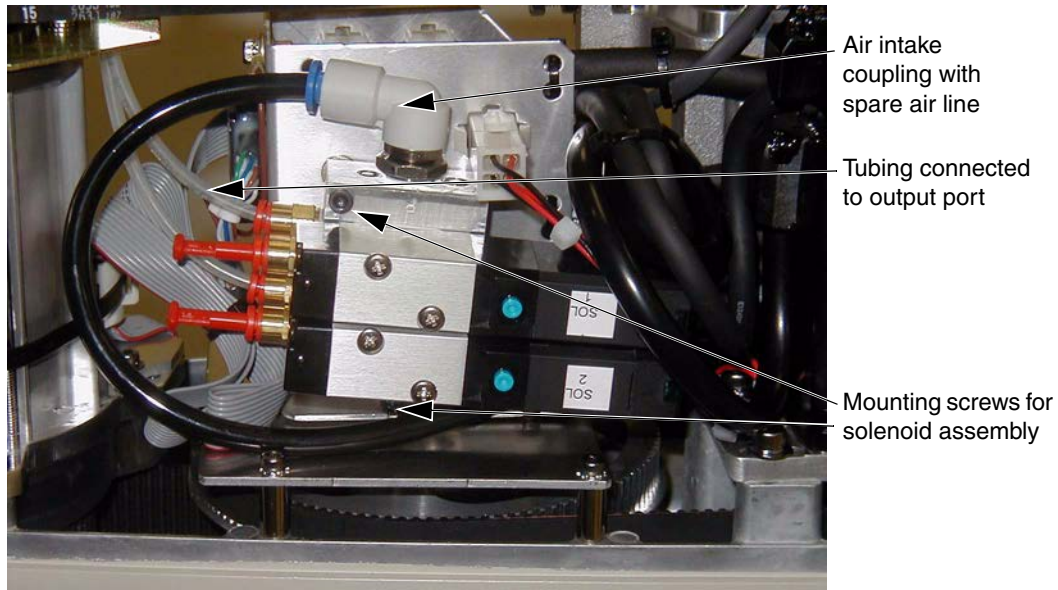

Figure 6-10. Solenoid Placement Using Mounting Hardware
5. Mount the solenoid manifold onto the bracket using the supplied M3 x 25 mm screws and washers (see Figure 6-10 on page 82).